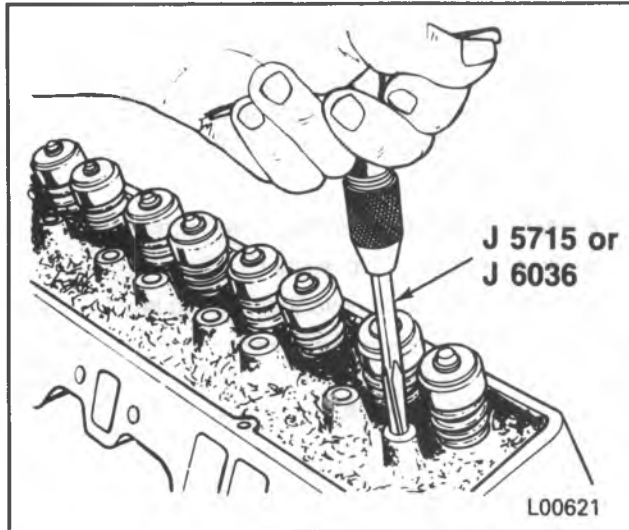

Figure 13 — Reaming The Rocker Arm Stud Bore
Install or Connect (Figures 13 and 14)
- Ream the hole to the proper size for the replacement oversize rocker arm stud. Use J 5715 for 0.003-inch oversize studs, or J 6036 for 0.013-inch oversize studs (figure 13).